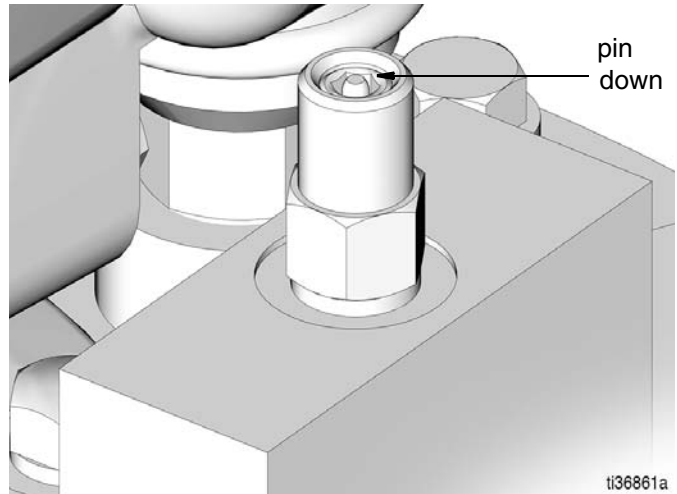

FIG. 19
2. Verify the Auto-Fill Shut Off (S) pin is down, indicating it is reset (FIG. 19).